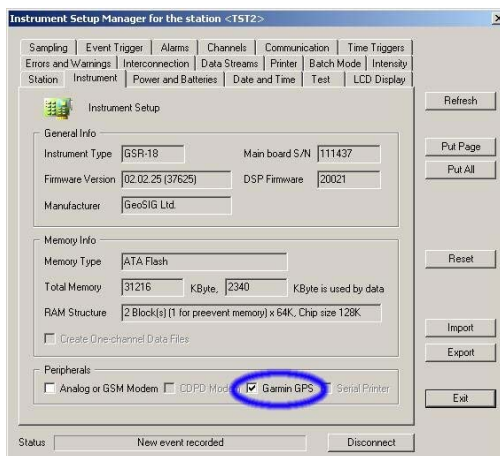

Figure 14. Selecting GPS as peripheral device
- On "Instrument" tab, "Garmin GPS" option should be ticked as a peripheral device as shown on Figure 14.